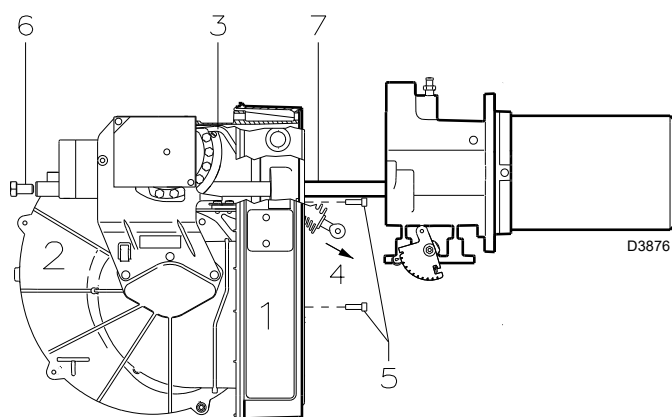

Fig. 35
Switchboard maintenance (Fig. 35)
With the burner open as in Fig. 35, unhook the tie-rod (3), removing the screw on the variable profile cam, and extract it from the tip (4).